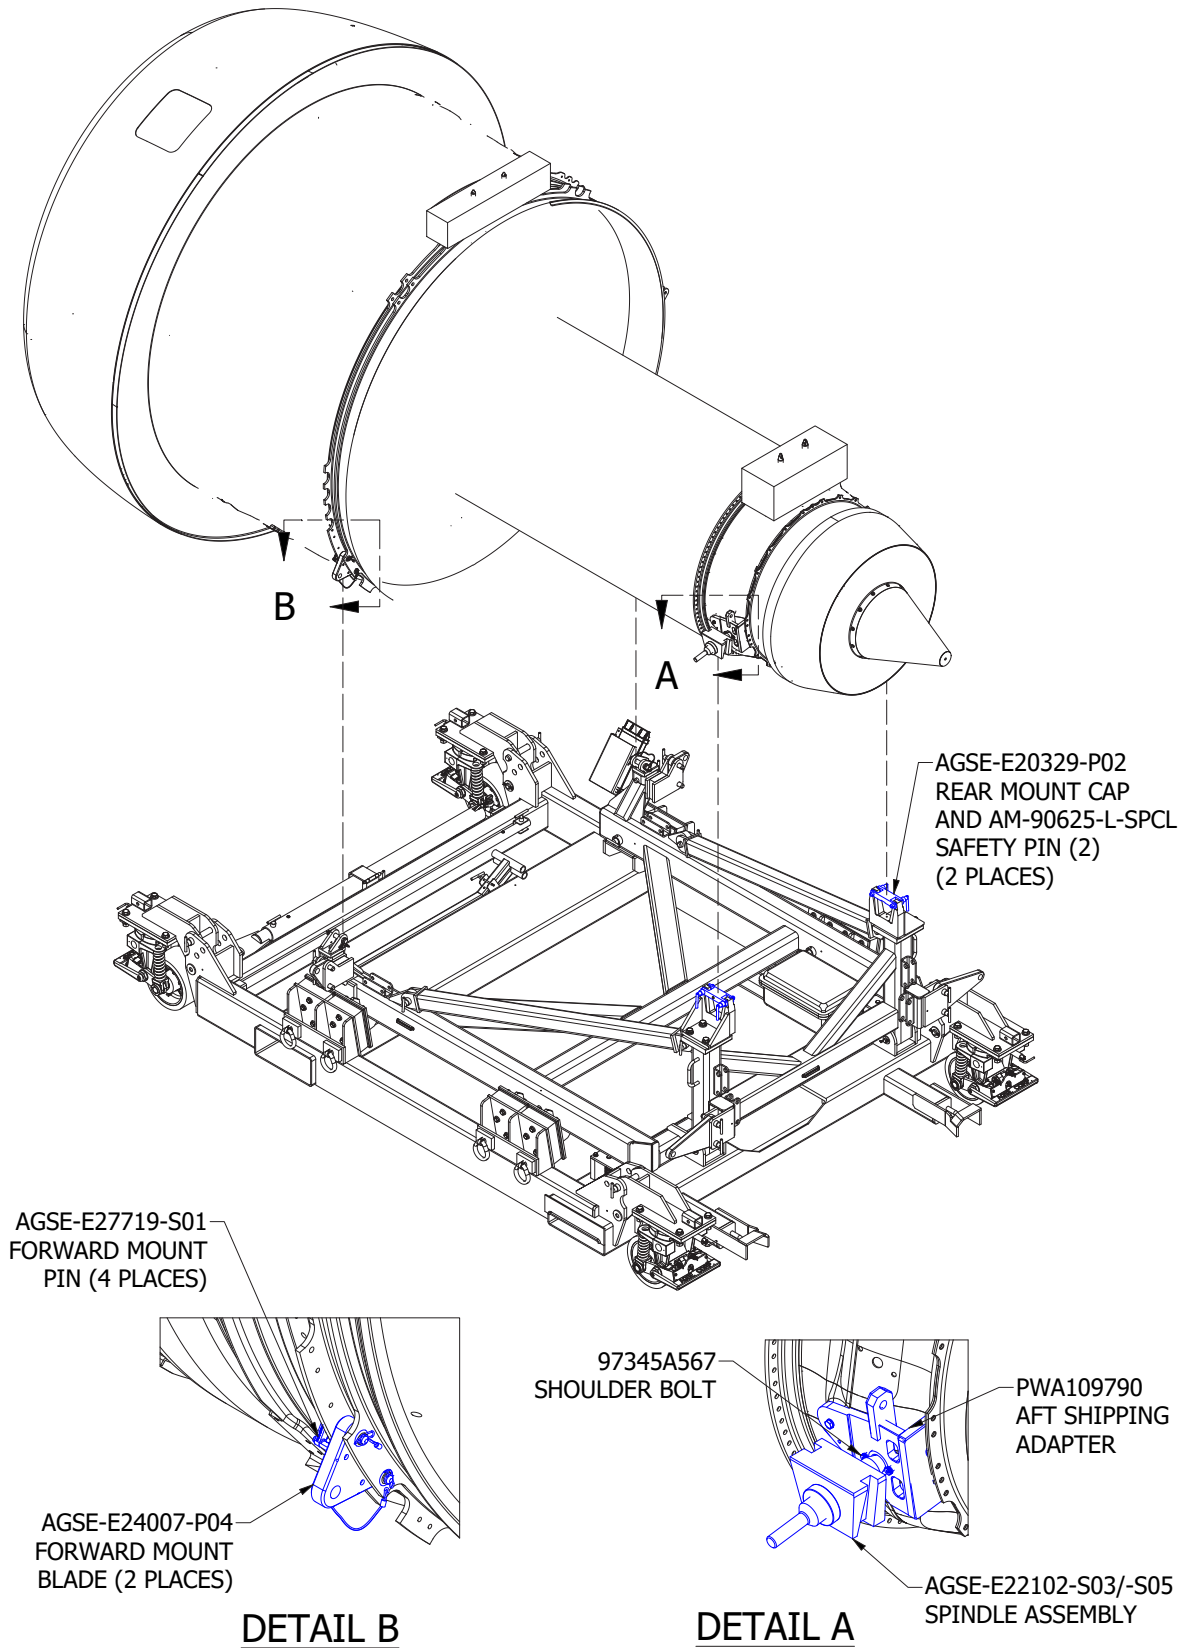
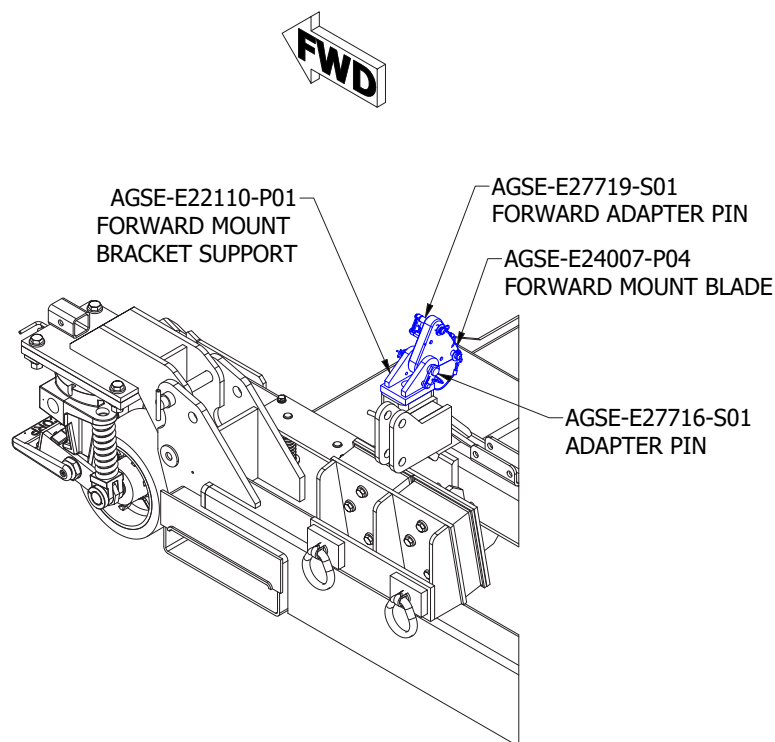

Figure 4.5-2
Figure 4.5-3
- 5). Re-install four (4) AM-90625-L-SPCL safety pins with two (2) AGSE-E20329-P02 rear mount caps onto the LH and RH AFT mounts. (Figure 4.5-2).
- 6). Remove four (4) 97345A567 shoulder bolts, AGSE-E22102-S03 LH spindle assy and AGSE-E22102-S05 RH spindle assy from PWA109790 AFT mount bracket set. (Figure 4.5-2)
- 7). Remove PWA109790 AFT shipping adapter set and hardware from turbine exit case (TEC). (Figure 4.5-2).
- 9). Remove two (2) AGSE-E24007-P04 forward mount blade by removing the AGSE-E27719-S01 forward adapter pin assembly. (Figure 4.5-2). Store them back in position on the cradle at AGSE-E22110-P01 forward mount bracket supports and secure with the AGSE-E27716-S01 forward adapter pin assemblies. (Figure 4.5-3).